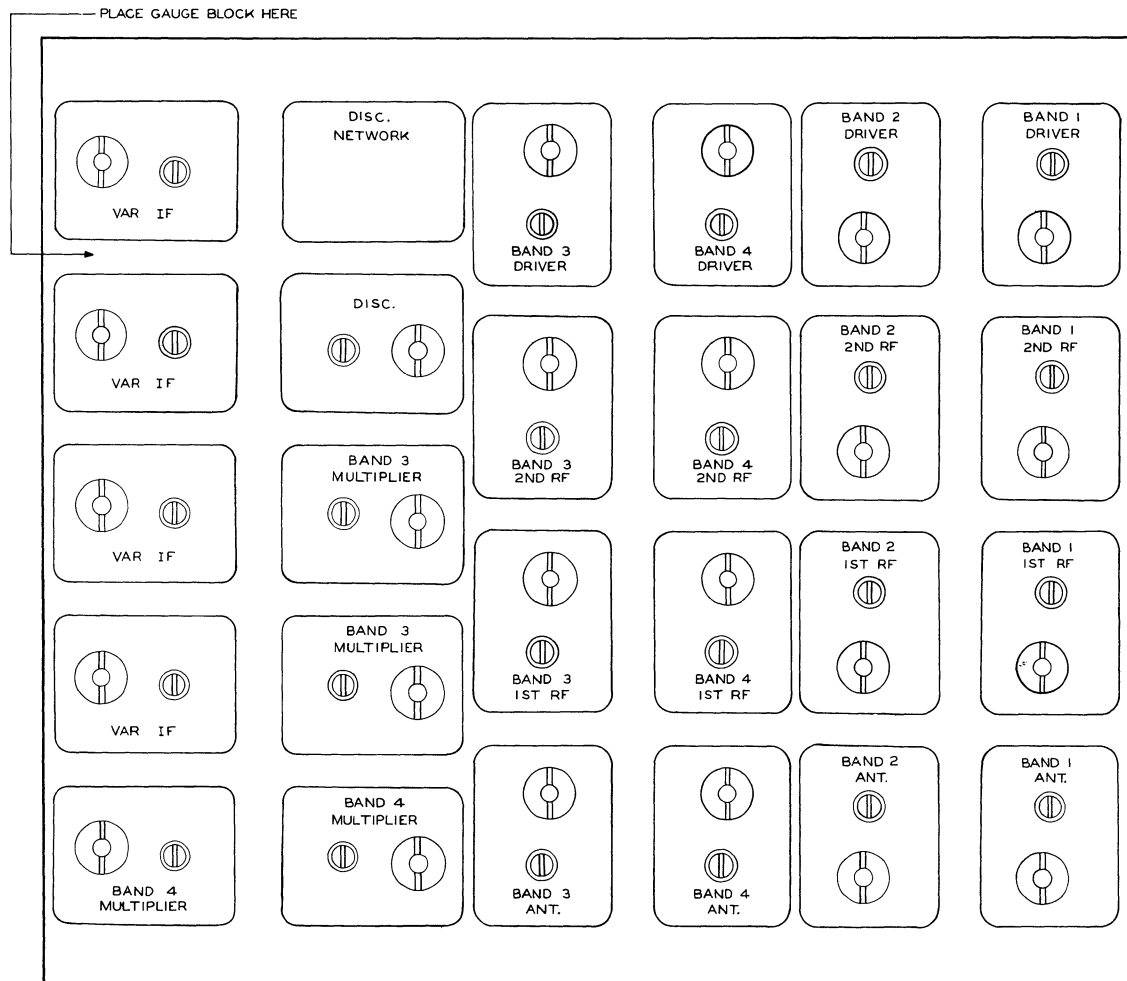

Figure 6-14. R-F Tuner, Electrical Alignment Points
Refer to figure 6-14 for location of the i-f coils.
- d. Adjust slugs of the two band 3 multiplier coils (see figure 6-14) for maximum reading on the vtvm.
- b. Adjust the slugs of the two band 4 multiplier coils (see figure 6-14) for maximum meter reading.
- c. Adjust the first r-f, second r-f, and driver slugs for a maximum reading on the vtvm. See figure 6-14 for location of coils.
f. Adjust the band 1 antenna coil slug for maximum avc voltage. Refer to figure 6-14 for the location of the antenna coils.